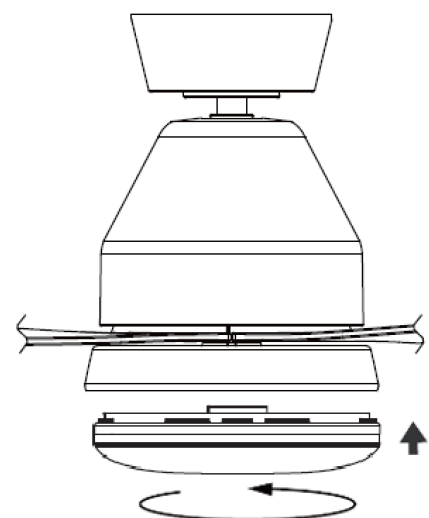

Fig. 7
- Install the globe to the lamp holder. (For fan with light only) (Fig. 7)